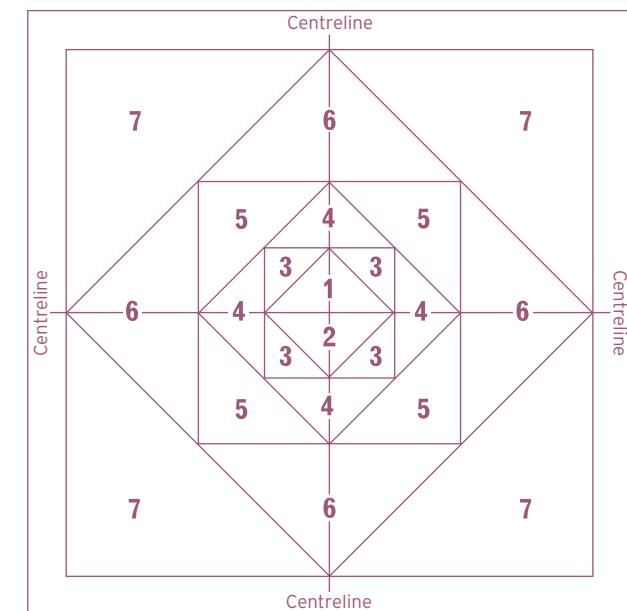

Figure 11 Continue working in larger pyramids
- ▶ Repeat this sequence on the opposite side of the centreline shown as area 2 in figure 11. Continue working in larger and larger pyramids, as shown in figure 11, until only the perimeter tiles require fitting.